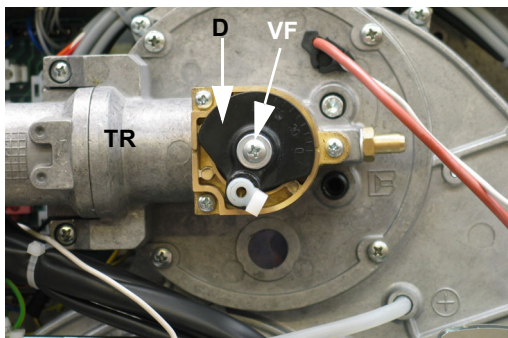

Fig. 18: Old position
- 8 (Fig. 18) Insert again the flange and the combustion head together
- 9 (Fig. 18) Rotate the disc **D** following the instructions below.
- 10 Take off the screw **VF**. (Fig. 18)